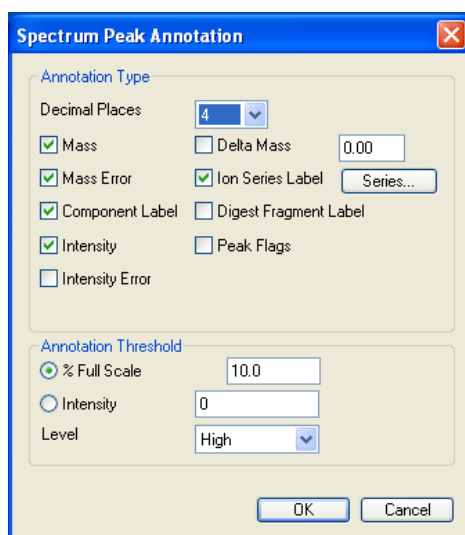

Figure 64 - Peak annotation parameters
- Set the spectrum annotation to four decimal places and click **OK** (Figure 64).